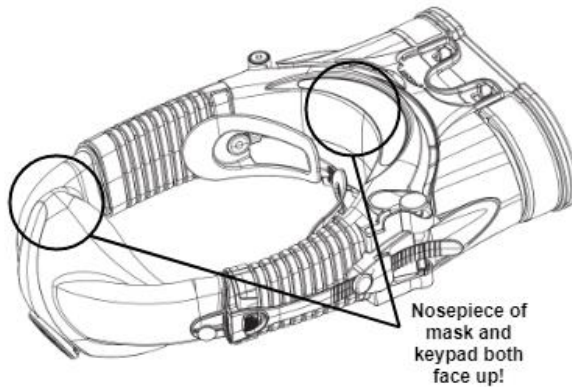

Figure 10 - Nose Section of Mask and Keypad must both Face Up
**Check that the mask is the right way up!** The pointed, nose section of the mask must face up, in the same direction as the keypad. See Figure 10.